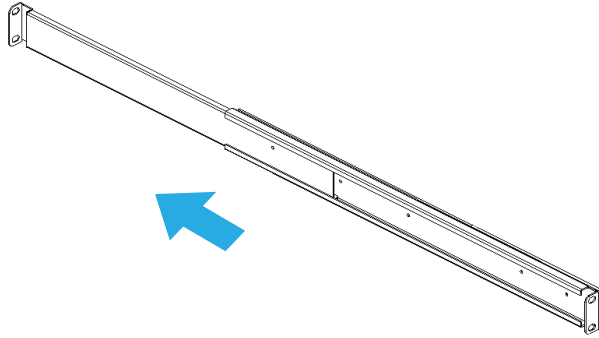

Figure 1
3. Slide the **Rear Rails** (x 2) away from the **Front Rails** (x 2) based on the required **Mounting Depth**. This completes the **Rail Assembly** (x 2). (Figure 1)